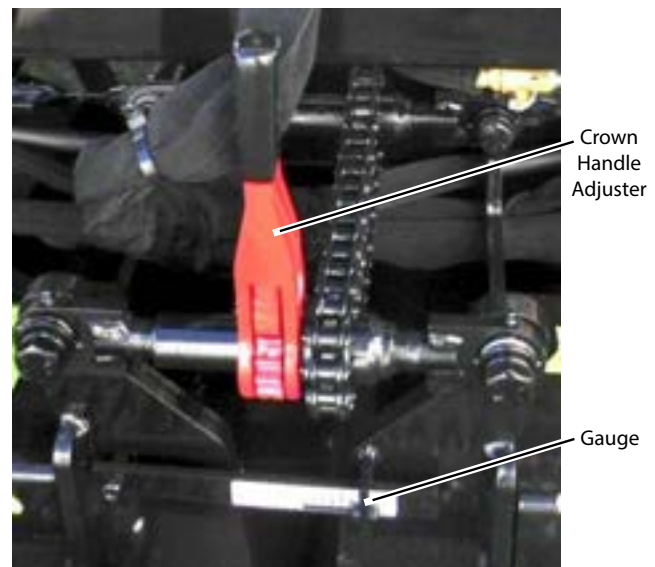

Figure 4-57. Crown Adjustment
2. Use the crown handle adjuster for setting positive or negative crown: **(Figure 4-57)**